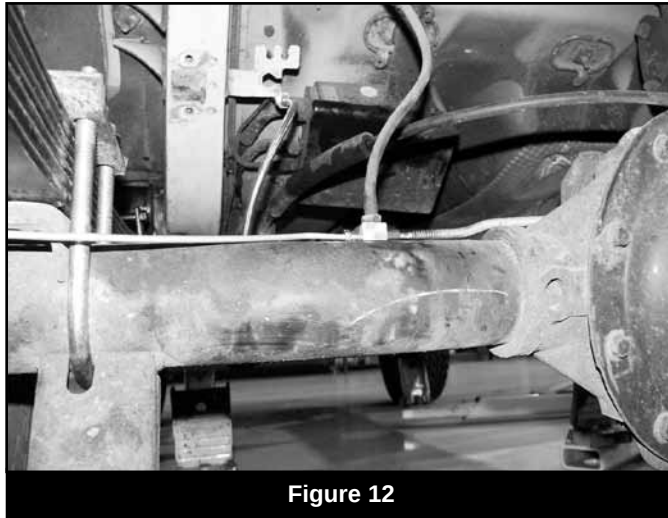

Figure 12
- 58. Install new BDS rear brake line (22512) in place. Torque to 25 ft-lbs. (Fig 12)